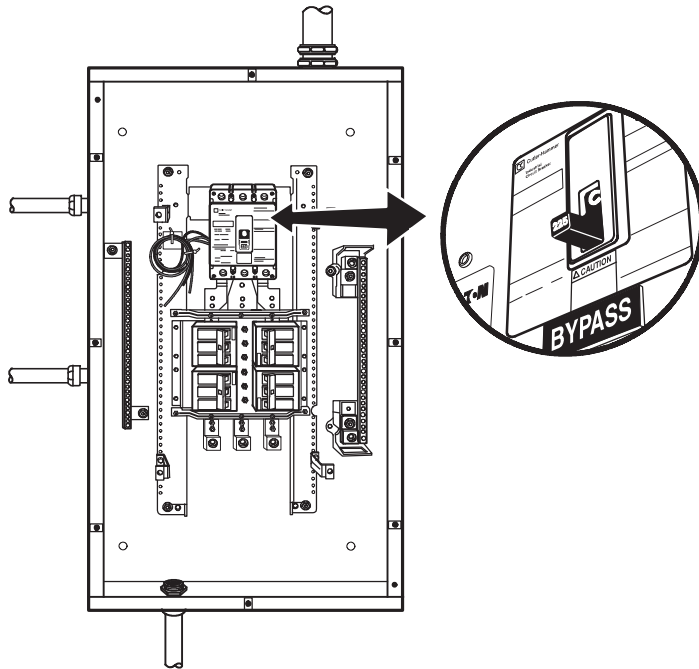

Figure 20. Version 1 Bypass Breaker
8. Verify that the bypass breaker is in the OFF position (see Figure 20).